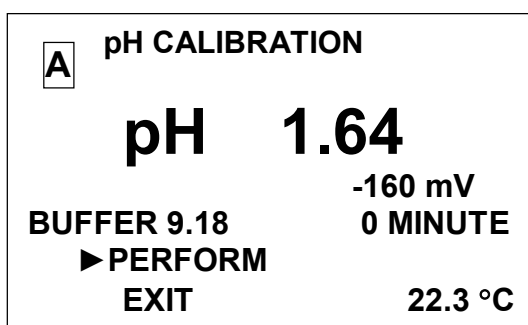

Fig. 2.17
- 10 Press "menu" button and the display shown in Fig. 2.17 shall come up.